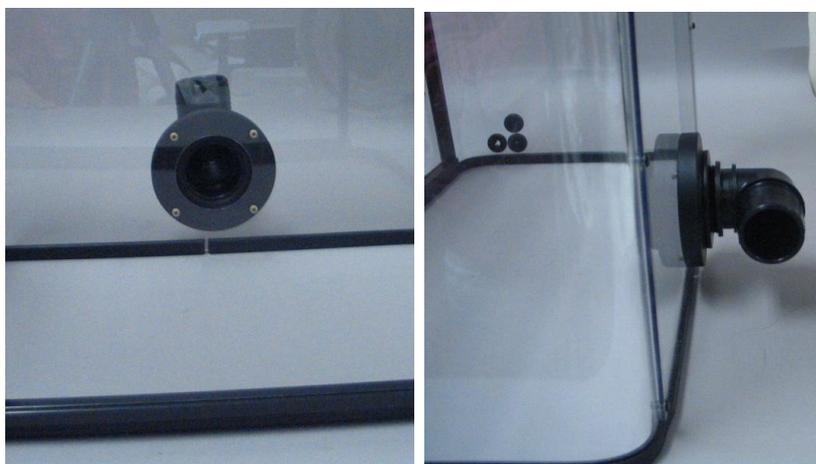

Figure 3. Exhaust piece connected to the Agilent SPS 3 cover viewed from inside the cover (left) and outside (right)
- 3 From the inside of the cover, insert the four PEEK screws into the holes and screw them in by hand (see Figure 3). Use a hex key to complete tightening.